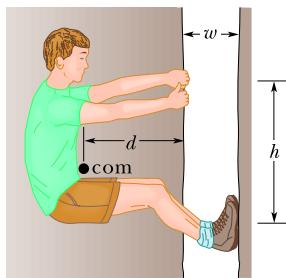

Figure 12.25 Problem 22.
**22 M BIO GO FCP** In Fig. 12.25, a 55 kg rock climber is in a lie-back climb along a fissure, with hands pulling on one side of the fissure and feet pressed against the opposite side. The fissure has width  $w = 0.20 \text{ m}$ , and the center of mass of the climber is a horizontal distance  $d = 0.40 \text{ m}$  from the fissure. The coefficient of static friction between hands and rock is  $\mu_1 = 0.40$ , and between boots and rock it is  $\mu_2 = 1.2$ . (a) What is the least horizontal pull by the hands and push by the feet that will keep the climber stable? (b) For the horizontal pull of (a), what must be the vertical distance  $h$  between hands and feet? If the climber encounters wet rock, so that  $\mu_1$  and  $\mu_2$  are reduced, what happens to (c) the answer to (a) and (d) the answer to (b)?